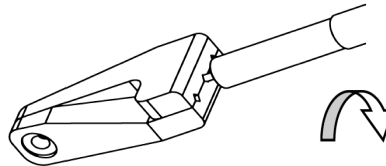

Fig. 3
**3. Remove dielectric residue** from center conductor exposed beyond cable outer conductor. Use care not to scratch surface by using an approved non-metallic center conductor cleaning tool or a Plexiglas scraper with squared or serrated edge works well, Figure 3.